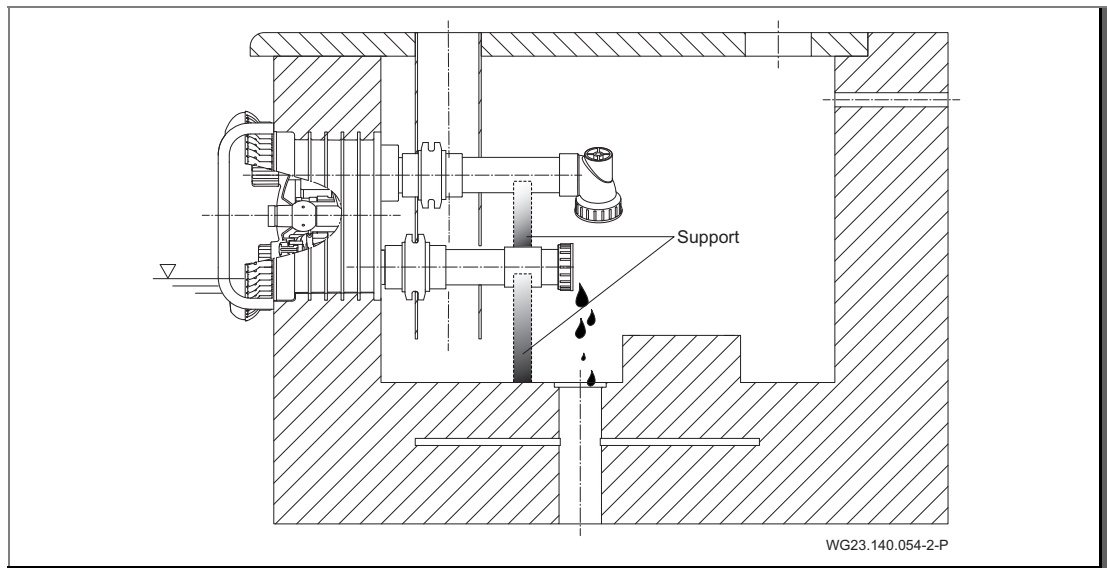

Fig. 27
- 3. Support the suction and pressure lines to relieve them. See "Fig. 27".